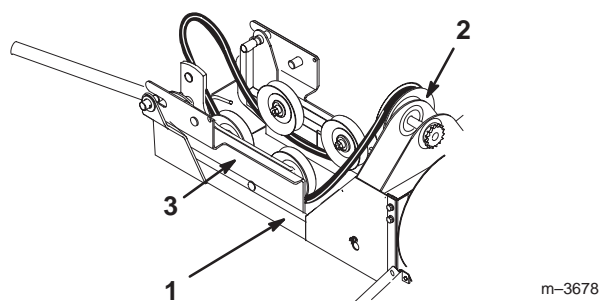

Figure 5
1. Ensure that the belt is under the pulleys and inside the belt guide in the pulley box (Fig. 5).
2. Slide the pulley box into the snowthrower frame (Fig. 5).
3. Route the belt over the snowthrower pulley (Fig. 5).